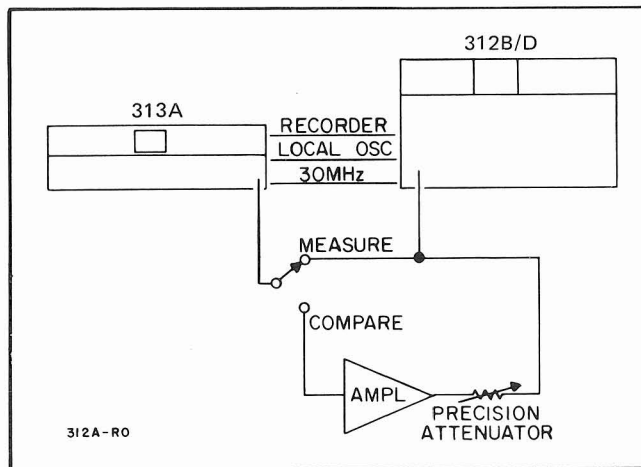

Figure 3-11. Flatness Test Setup.
3-65. The flatness of an amplifier or even an entire system can be accurately determined to within 0.1 dB when utilizing the 313A Tracking Oscillator and 312B/D. To test the flatness of a system, connect the equipment as shown in Figure 3-11 and set up the 313A to track the 312B/D meter indication (refer to the 313A Operating and Service Manual). If using a 312D, the meter switch must be set to NORMAL.
- a. Place S1 (Figure 3-11) in the measure position and tune the 312B/D to the reference frequency.
3-66. For less critical applications flatness can be measured directly using the 312B/D and 313A. Set up the 313A for tracking operation and tune the 312B/D through the desired frequency range. Use the 313A attenuators in place of the precision attenuators in Figure 3-11.